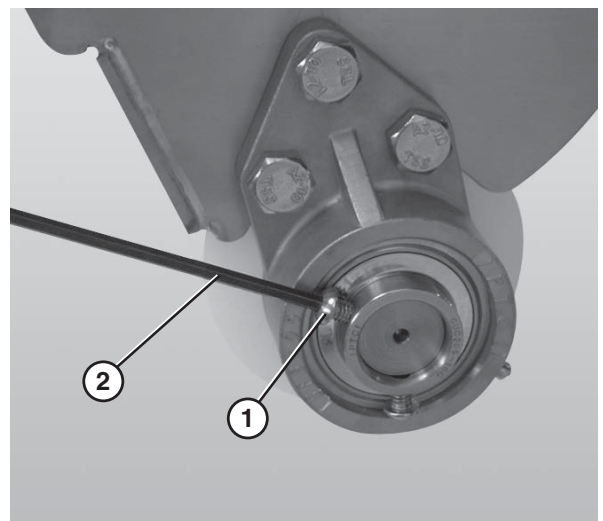

Figure 55
6. Loosen the 3 hole flange (**Figure 55, item 1**) with bearing fasteners using a hex wrench (**Figure 55, item 2**).